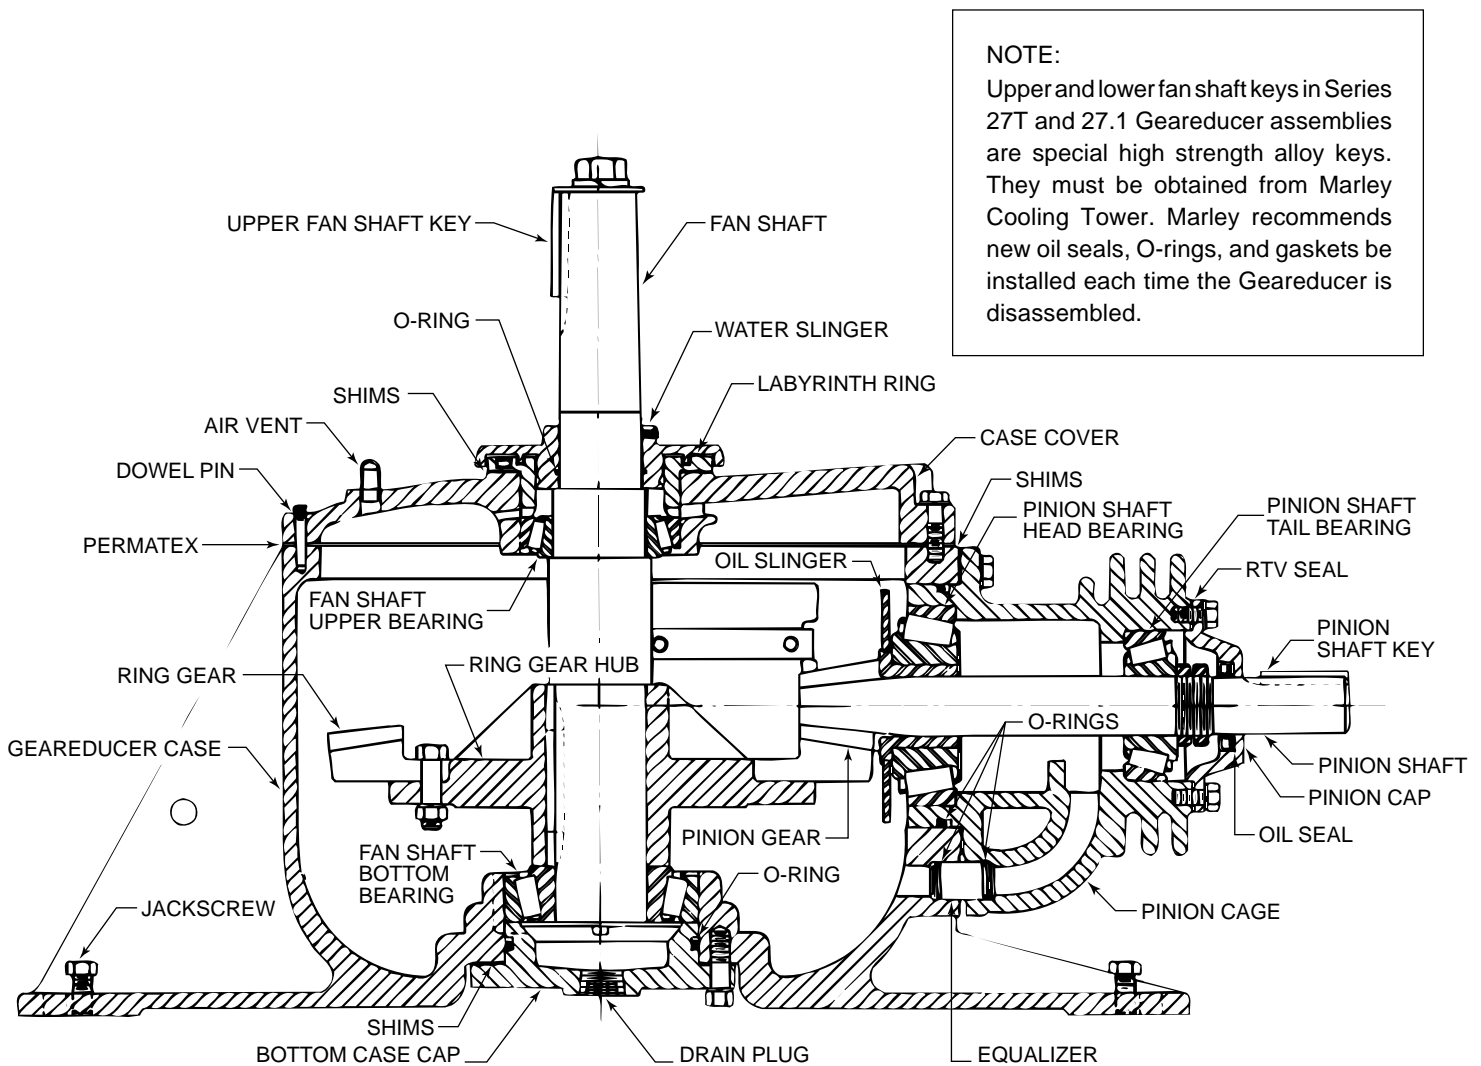
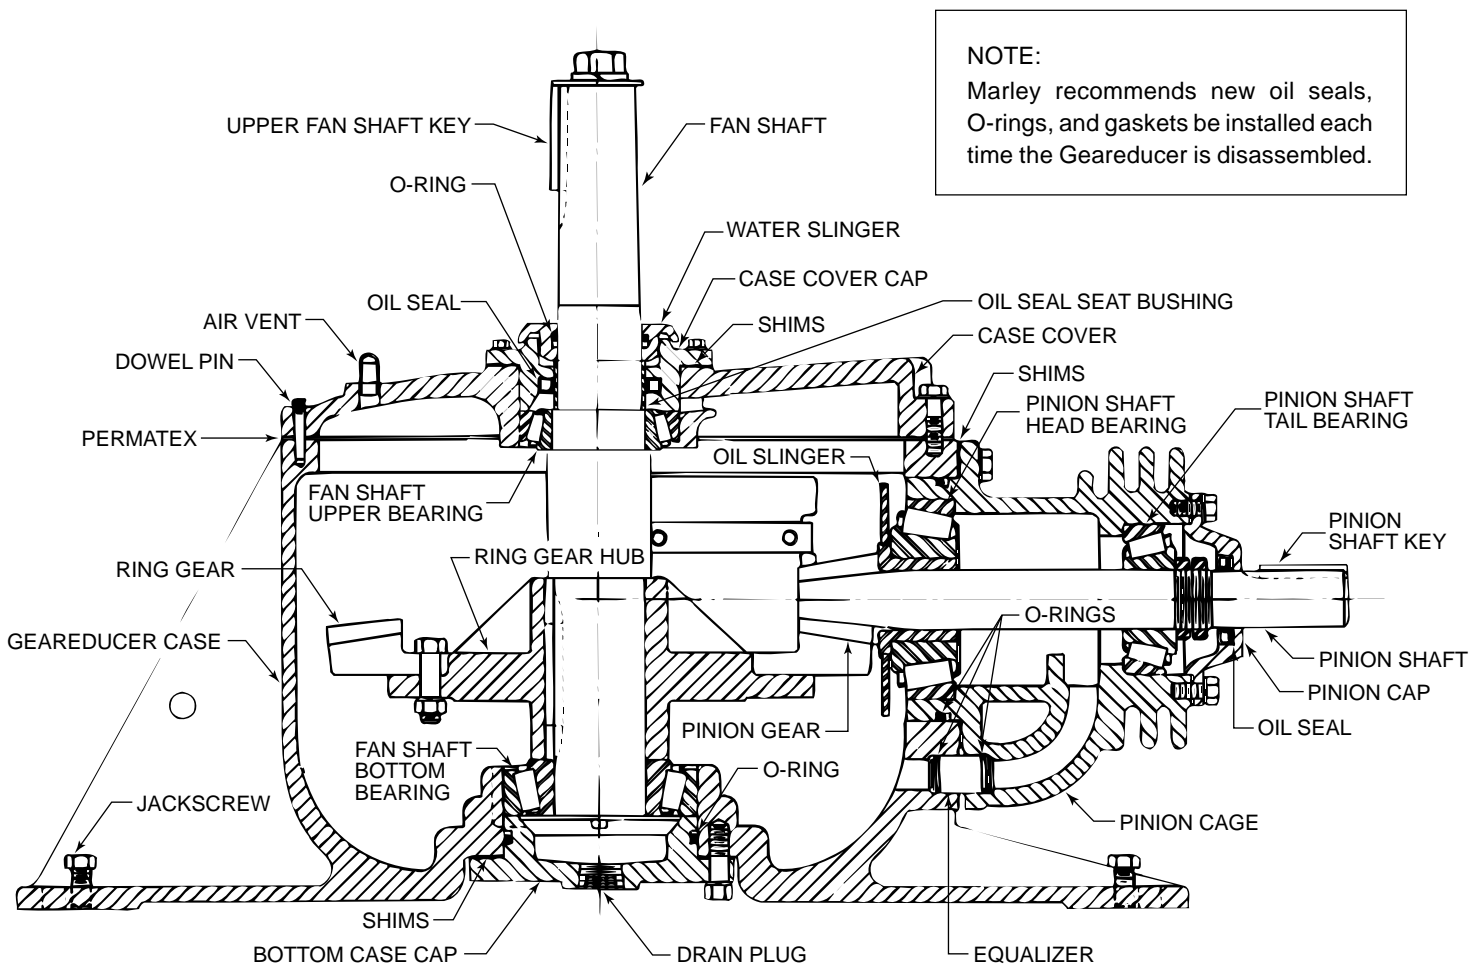

Figure 1. Cross Section Series 27A, 27T, and 27.1 Geareducer with Labyrinth Fan Shaft Seal
Figure 2. Cross Section of Series 27A Geareducer with Lip Type Fan Shaft Seal
Refer to Figures 1, 2, 3A and 3B.
3a. Series 27A, 27T, and 27.1 Geareducers with labyrinth ring (refer to Figures 1 and 3A). Remove labyrinth ring and shims.
3b. Series 27A Geareducers with case cover cap (refer to Figures 2 and 3B). Remove case cover cap and shims. Remove oil seal from case cover cap.
4. Replace oil seal seat bushing if worn. This step required only for Series 27A Geareducers with lip type fan shaft seal (Figure 2).
3. Install labyrinth ring without shims (Figure 1 and 10A) or case cover cap without new oil seal, if required, and without shims (Figures 2 and 10B). Tighten bolts to obtain zero fan shaft end play and not more than 35 inch-pound bearing pre-load. This is necessary in order to check gear backlash.
7. Install pinion cage O-ring and equalizer with its O-rings. Install bottom bearing cap O-ring. (See Figures 1 or 2 for location of O-rings and equalizer.)